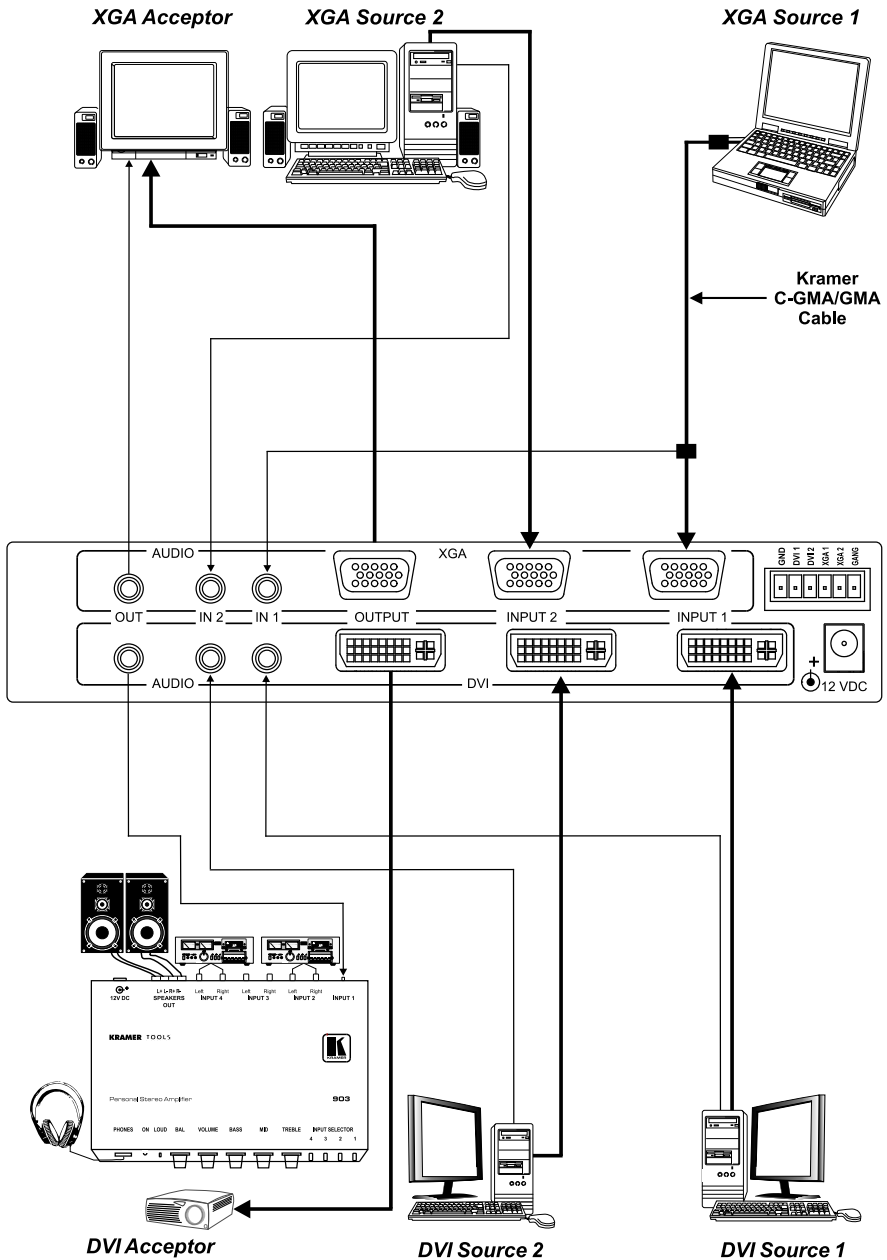

Figure 2: Connecting the VS-2DVA 2x1 DVI / XGA / Audio Switcher
To connect your **VS-2DVA 2x1 DVI / XGA / Audio Switcher**, as the example in Figure 2 illustrates, do the following¹:
- Connect the XGA source 2 (for example, a PC) to the INPUT 2 XGA HD15F connector and its audio to the IN 2 3.5mm mini jack, using separate cables (as illustrated in Figure 2) or a Kramer C-GMA/GMA cable²
4 The connection is not illustrated in Figure 2